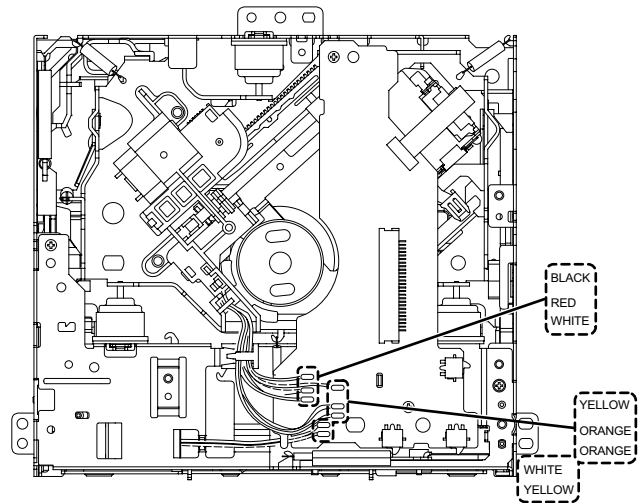

Fig.2
- (2) Remove the eight wires from the Mecha control board. (See Fig.2)